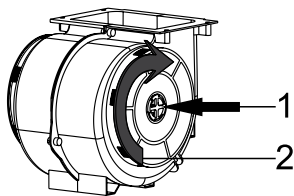

Fig. 6: CARBON FILTER
1. Place the carbon filter to its housing Fig. 6.
2. Please mount the carbon filter by turning it on the its right side and be sure that it is fixed.Fig. 6.